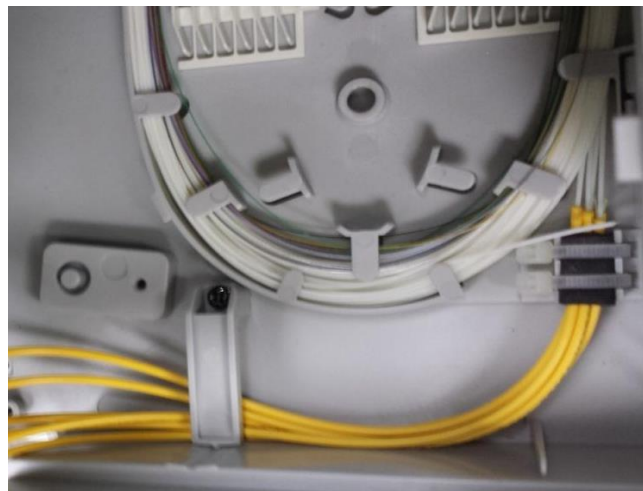

Fig. 26
- 3.7.4. Remove the cord cover to the entrance of the splice tray with a suitable tool and accommodate the fibers slack in the splice tray. Wrap the fibers with the foam and secure with cable ties. Route the fibers. (Fig.26)